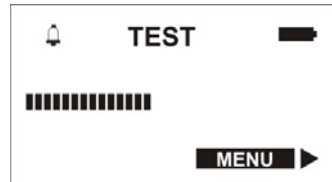

Figure 2.1
For switching the instrument on a lower button on the keyboard is to be pressed and held till the backlight goes on. During the testing on LCD is indicated the analogue scale with the decreasing number of segments (Figure 2.1). In case of malfunction the LCD indicates corresponding message (according to the item 4). After calibration completion the instrument should enter the DER measurement mode. The instrument is ready for use in the DER measurement mode.